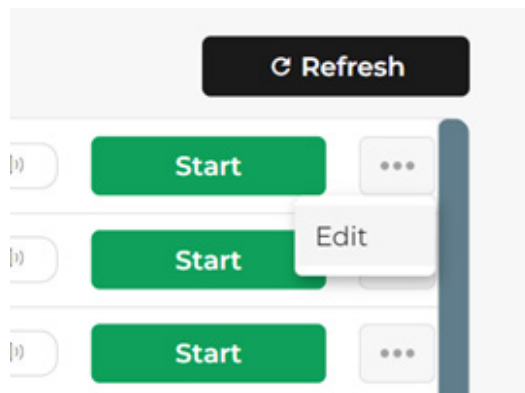

FIGURE 4-6: EDIT OPTION
2. Select “Edit” from the drop-down menu, as shown in Figure 4-6 below: